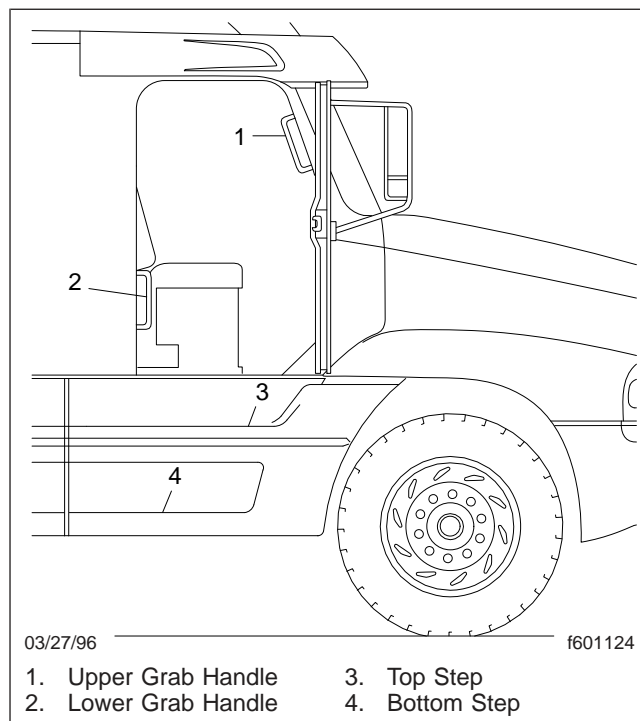

Fig. 3.4, Passenger's Side Steps and Grab Handles
Entering the Passenger's Side (Fig. 3.4)
3. Grasp the handle on the door (**Fig. 3.4**) with your right hand.
Exiting the Passenger's Side (**Fig. 3.4**)